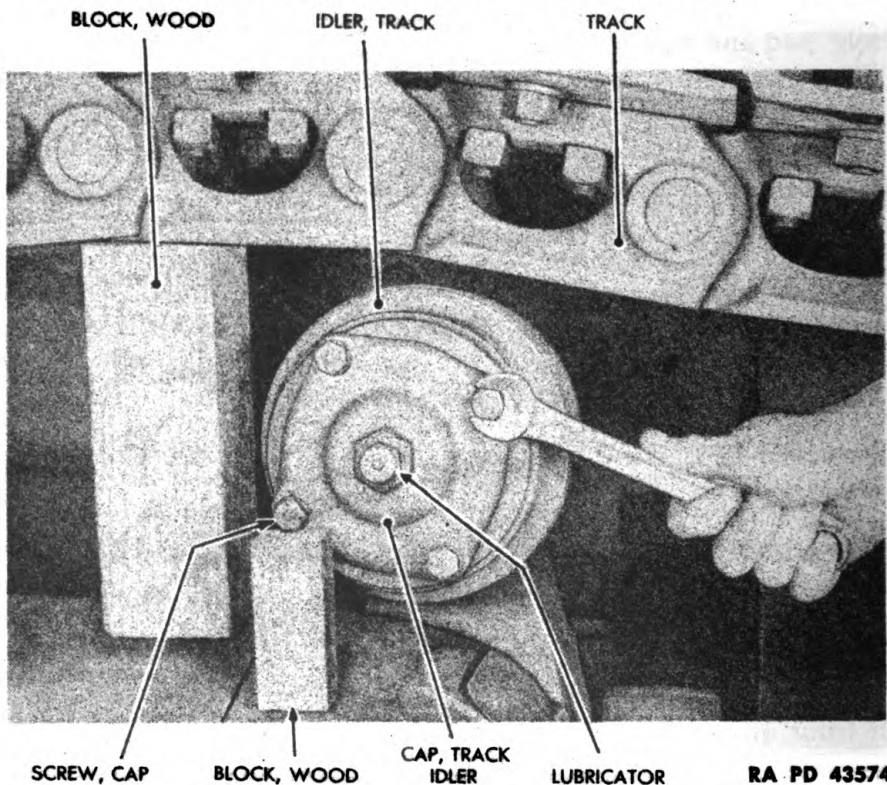

Figure 137 — Track Idler Removal
(1) RAISE TRACK ABOVE IDLER TO BE REMOVED (fig. 137).
(2) REMOVE TRACK IDLER CAP (fig. 137).
(3) REMOVE LUBRICATOR FROM CAP (fig. 137).
(5) INSTALL LUBRICATOR IN TRACK IDLER CAP (fig. 137).**WRENCH, open-end, 7/8-in.**